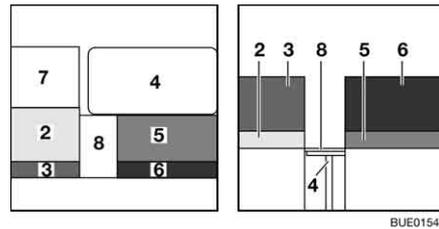

Fig. 143 During conversion
- Fold the seat box extension (Fig. 143,8) upwards and hook onto the vario seat.
- Fold the vario seat extension (Fig. 143,7) upwards and hook.